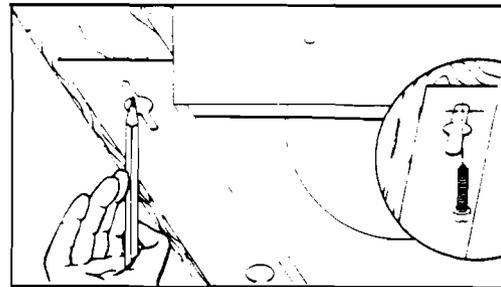

Figure 2
3. Entrance for wiring is provided by one $\frac{1}{2}$ -14 NPT hole in the bottom of the housing. Wiring to control housing must be in rigid conduit also in accordance with National Electrical Codes (NEC) for hazardous locations. (See Figure 2)
1. Set the internal dial and the external dial to the same setting so that the hole in the dial lines up with pin on the arm that is operated by the knob. (See Figure 2)
5. Loosen two dial screws (Figure 2). Carefully turn the dial only to correct temperature setting as indicated by thermometer. Be sure the thermostat shaft is not moved during this operation.
2. **Trace Keyhole Slots** - Hold unit against frame and trace keyhole slots in mounting brackets onto frame. Start screws provided in same end of all traced keyhole openings. Leave about 3/8" of screws projecting from frame. (Fig. 2)